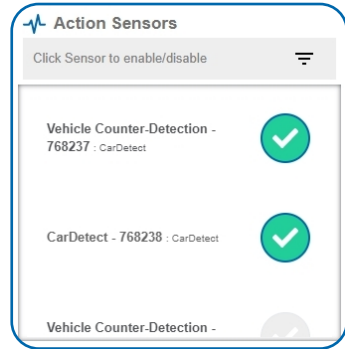

Figure 18
- By default, the sensor(s) will not be assigned to the action conditions you've just set. To assign a sensor, find the device(s) you want to designate for this action and select. Selected sensor boxes will turn green when activated. Choose the sensor box again to unassign the sensor from the action. See Figure 18.